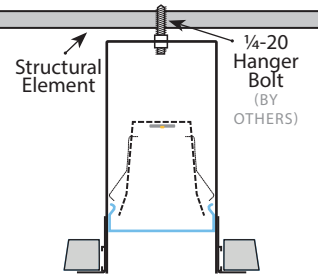

FIGURE 1
1. Cut ceiling opening to dimensions specified (see rough-in dimensions, below) and screw mounting brackets onto studs or ceiling joists (Figures 1 & 3).